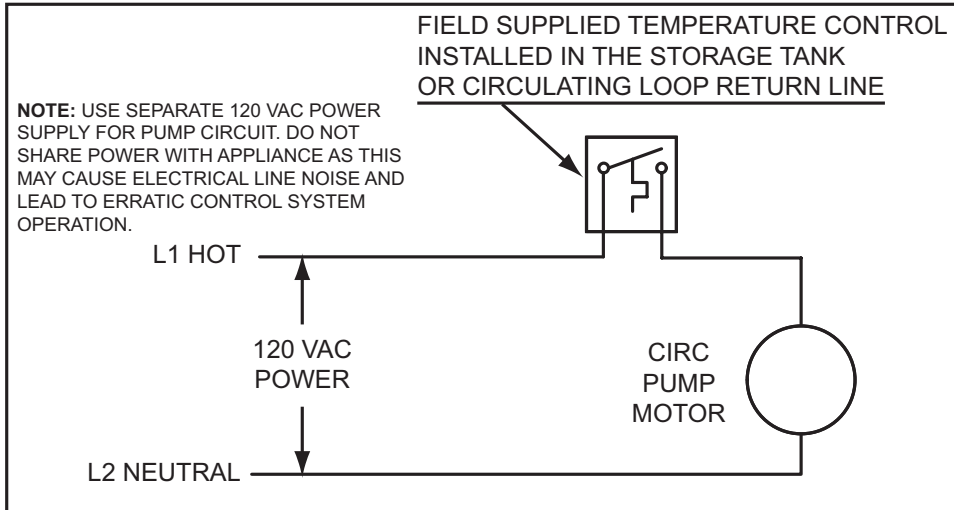

Figure 59
6. If a pump is being installed between a water heater and storage tank or on a building recirculation loop wire according to Figure 59 on page 67.